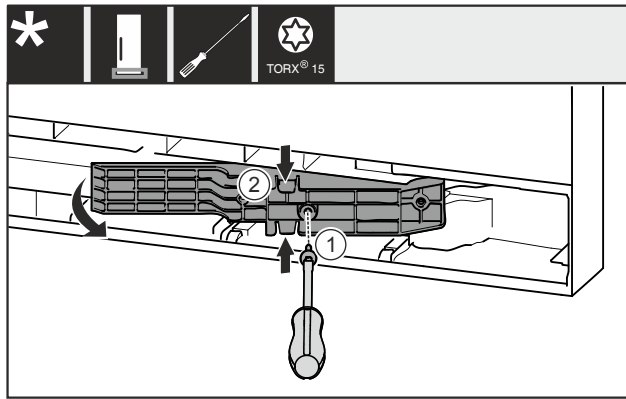

Fig. 11 *
- Remove the screw Fig. 11 (1).*
- Gently press the top and bottom of the adapter piece Fig. 11 (2) together and pull it out.*